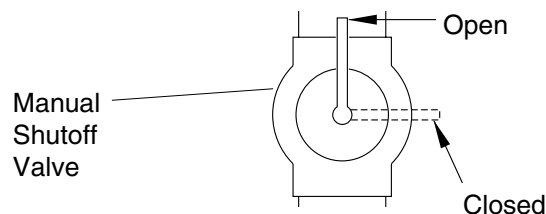

Figure 15 - Manual Shutoff Valve
1. Close manual shutoff valve (see Figure 15).
1. Open manual shutoff valve (see Figure 15).